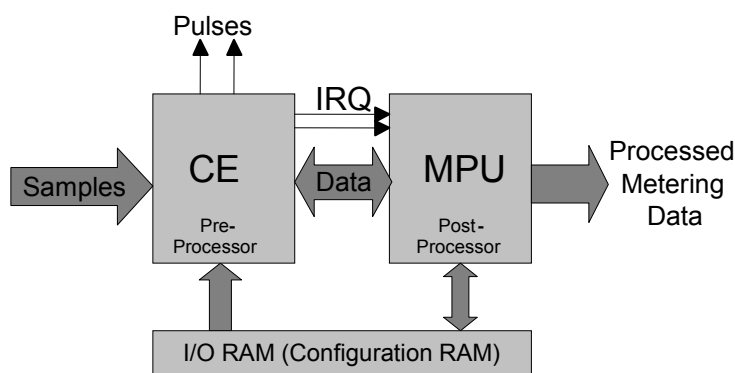

Figure 26: MPU/CE Data Flow
The data flow between the Compute Engine (CE) and the MPU is shown in Figure 26. In a typical application, the 32-bit CE sequentially processes the samples from the voltage inputs on pins IA, VA, IB and VB, performing calculations to measure active power (Wh), reactive power (VARh), A²h and V²h for four-quadrant metering. These measurements are then accessed by the MPU, processed further and output using the peripheral devices available to the MPU.
Figure 26 illustrates the CE/MPU data flow.